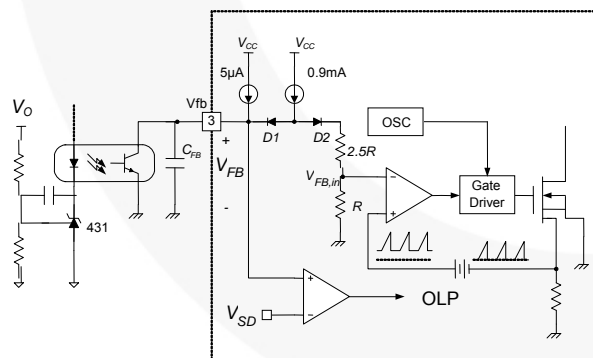

Figure 14. Pulse Width Modulation (PWM) Circuit
2. Feedback Control: The 700V FPS series employs Current Mode control, as shown in Figure 14. An optocoupler (such as the H11A817A) and shunt regulator (such as the KA431) are typically used to implement the feedback network. Comparing the feedback voltage with the voltage across the R_{sense} resistor of SenseFET, plus an offset voltage, makes it possible to control the switching duty cycle. When the regulator reference pin voltage exceeds the internal reference voltage of 2.5V; the optocoupler LED current increases, feedback voltage V_{fb} is pulled down, and the duty cycle is reduced. This typically occurs when the input voltage increases or the output load decreases.
4.3 Over-Voltage Protection (OVP): In the event of a malfunction in the secondary-side feedback circuit or an open feedback loop caused by a soldering defect, the current through the optocoupler transistor becomes almost zero (refer to Figure 14). Then, V_{FB} climbs up in a similar manner to the overload situation, forcing the preset maximum current to be supplied to the SMPS until the overload protection is activated. Because excess energy is provided to the output, the output voltage may exceed the rated voltage before the overload protection is activated, resulting in the breakdown of the devices in the secondary side. To prevent this situation, an Over-Voltage Protection (OVP) circuit is employed. In general, V_{CC} is proportional to the output voltage and the FPS uses V_{CC} instead of directly monitoring the output voltage. If V_{CC} exceeds 19V, the OVP circuit is activated, terminating switching. To avoid undesired activation of OVP during normal operation, V_{CC} should be designed to be below 19V.